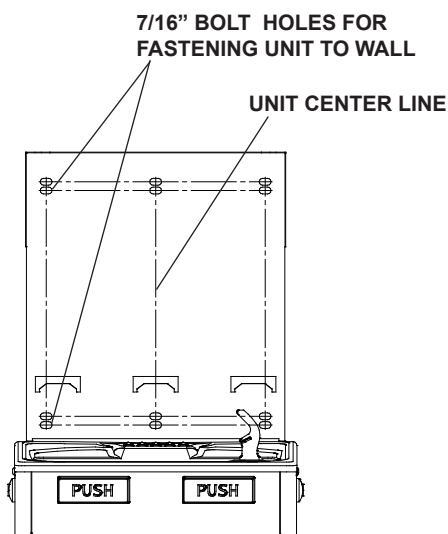

Fig. 6
- 2) **Remove wall mounting plate from Bottle Filler.** Place wall plate against wall on top of basin. Center the wall plate side to side with the basin. Mark the six (6) mounting holes with a pencil (See Fig. 6).
- 4) **Install wall mounting plate to wall** using six (6) 7/16" orround mounting holes (mounting bolts not included) (See Fig. 6). Use appropriate fasteners for your wall type.